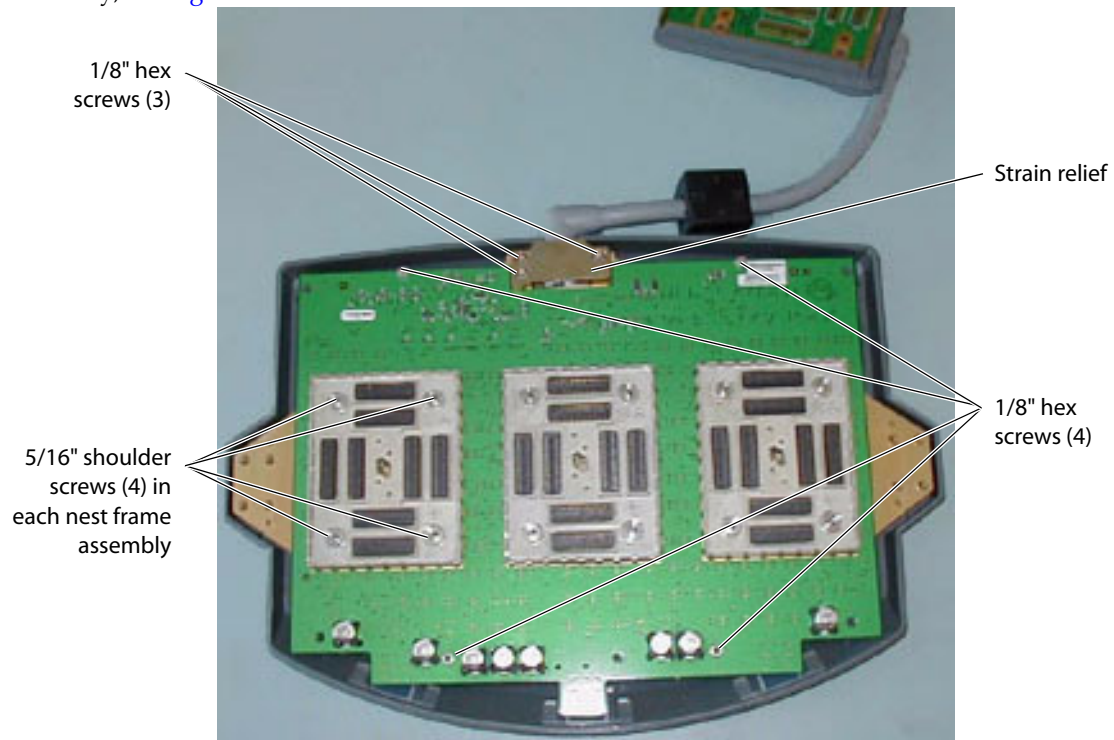

Figure 9.22 Main PCBA screws and Nest Frame Shoulder Screws
- 1 Remove the four (4) 1/8" hex screws and the four (4) nest frame shoulder screws from each nest frame assembly, see Figure 9.22.
- 6 The transducer assembly is removed from the Triple Transducer Connect by removing the strain relief shown in Figure 9.22. Remove the three (3) 1/8" hex screws from the strain relief.